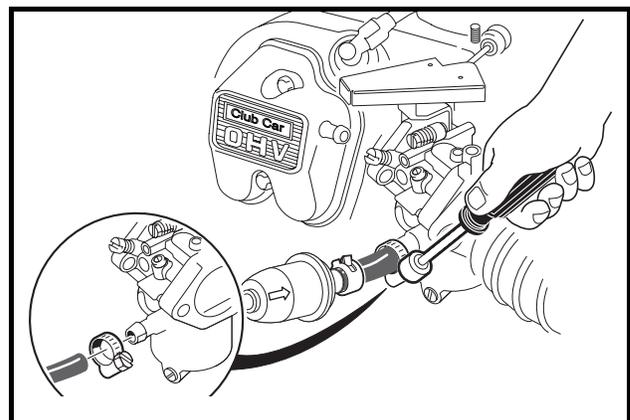

**Figure 16-47 Engine Ground Wire**
24. Attach the ground wire to the mounting screw on the oil filler tube mounting bracket and tighten to 50 in-lb (5.7 N-m) **(Figure 16-47, Page 16-19)**.